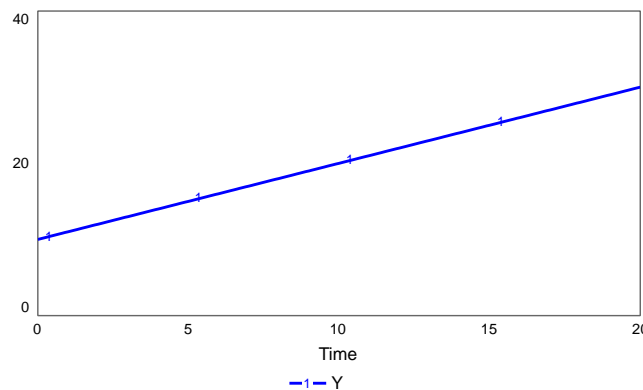
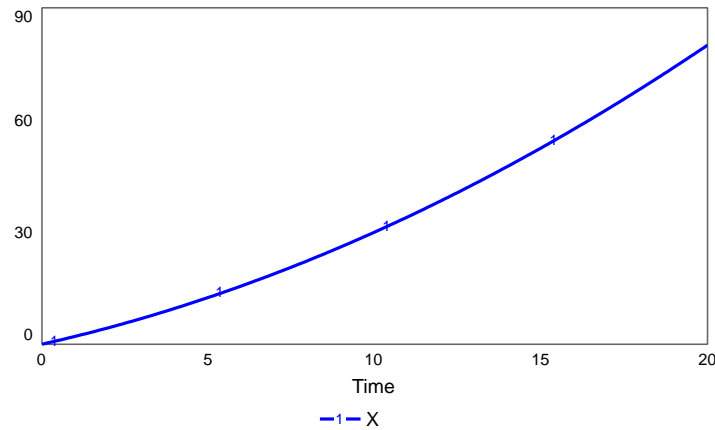

Figure 2: Uniform change - behaviour
Figure 4: *X* is accelerating due to the effect of *Y*'s uniform change
Your graph should look like Figure 2:
- Set up a graph for  $X$  and run the model, Figure 4.
If *Y* had been constant, then *X* would have changed uniformly. However, in this case as *Y* is changing (Figure 2), then the change in *X* will not be uniform, as seen in Figure 4. The level of the effect of *Y* on *X* determines the extent to which the curvature of *X* deviates from a straight-line uniform behaviour.